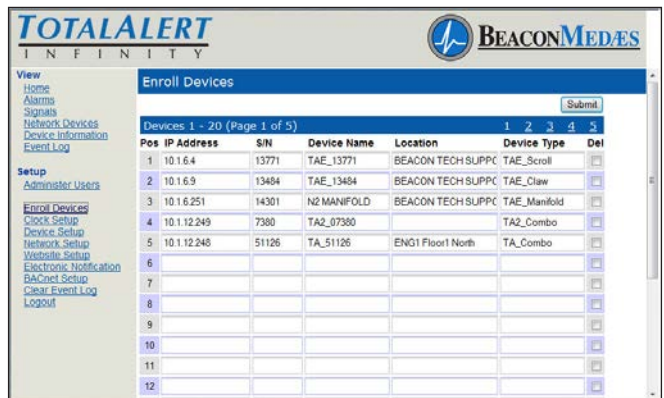

Figure 194: Enroll Device Setup
1. Click on Enroll Devices to access the Enroll Devices Setup page (Figure 194).